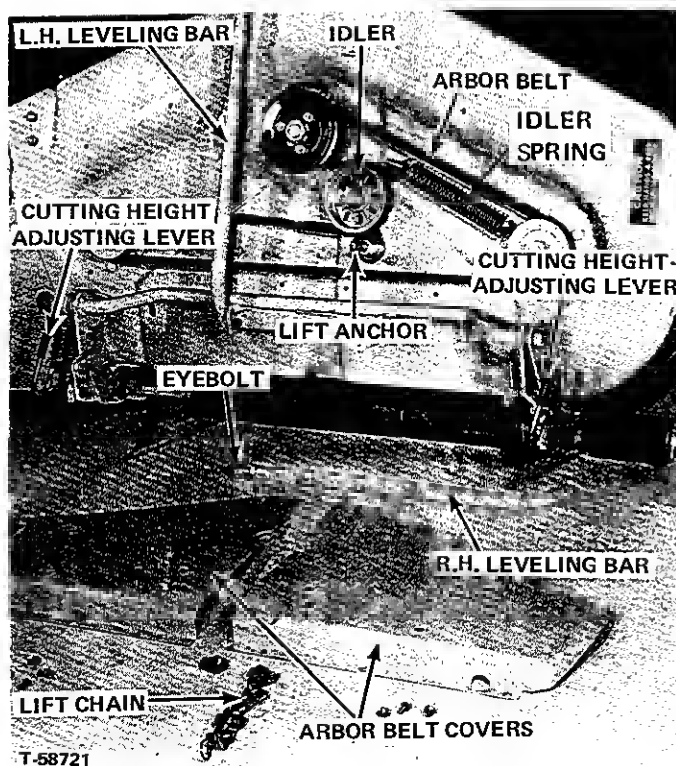

Figure 12.
2. See Figure 12. To adjust, turn the eyebolts on the front end of the leveling bars.
3. Remove the right hand leveling bar to permit lifting right arbor cover over the lift anchor (Figure12)./3
4. Unhook idler spring from idler and remove belt from arbor pulleys. Install new belt as shown in Figure. 12. 3